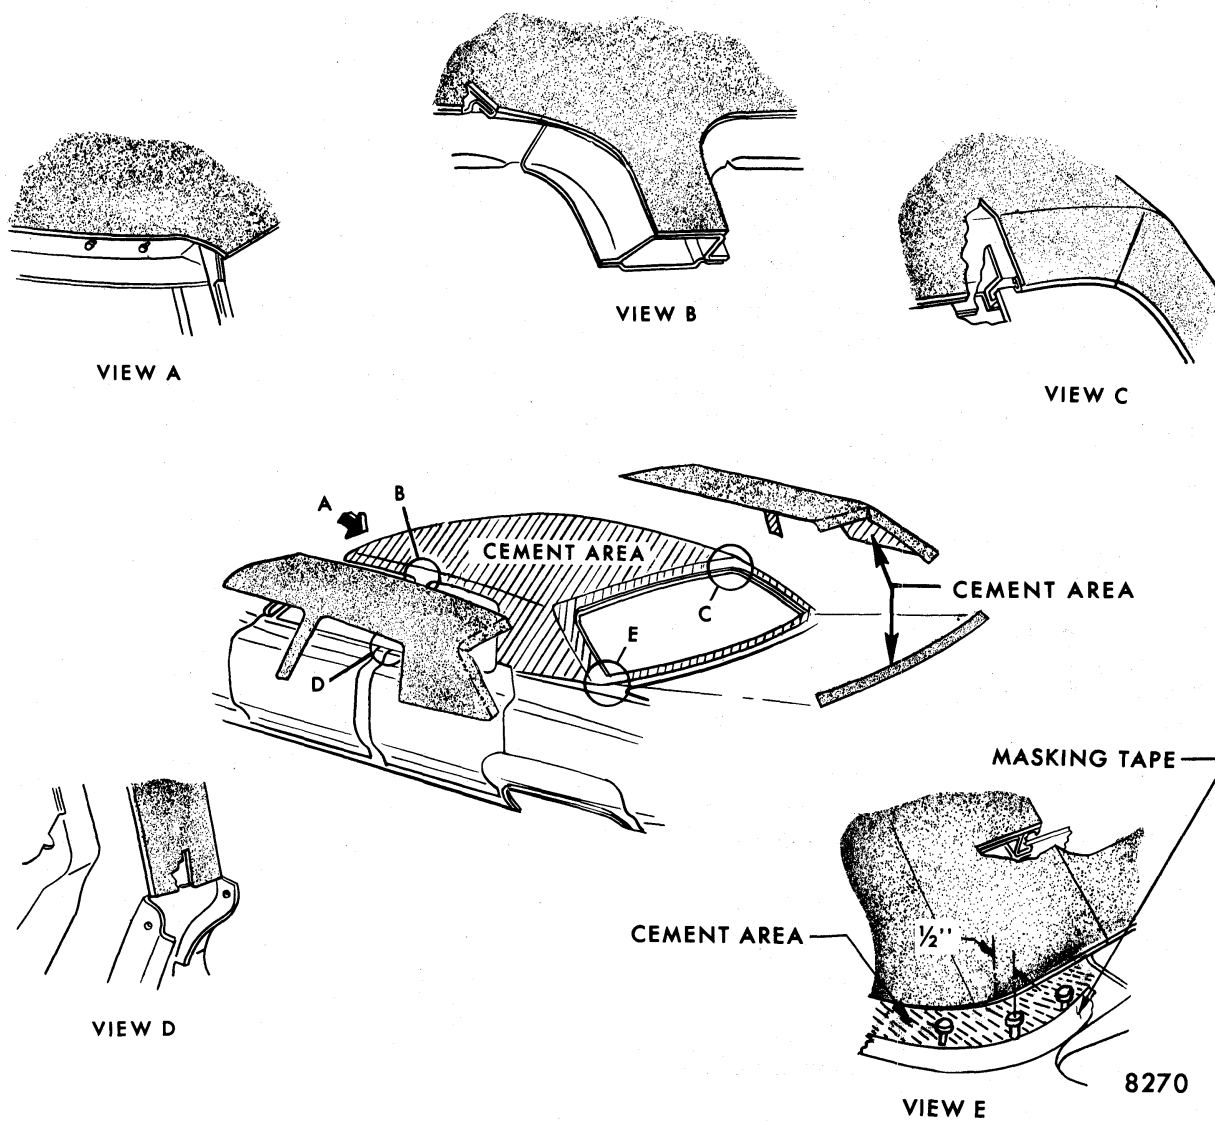

Fig. 8-45-Full Foam Pad Installation (Three Piece)
12. Trim excessive pad material (Fig. 8-45) as follows:
- a. 1/2" inboard of weld-on studs at quarter belt and rear end beltline (Fig. 8-45). On CA9 option, trim pad to inboard of weld-on studs on roof.